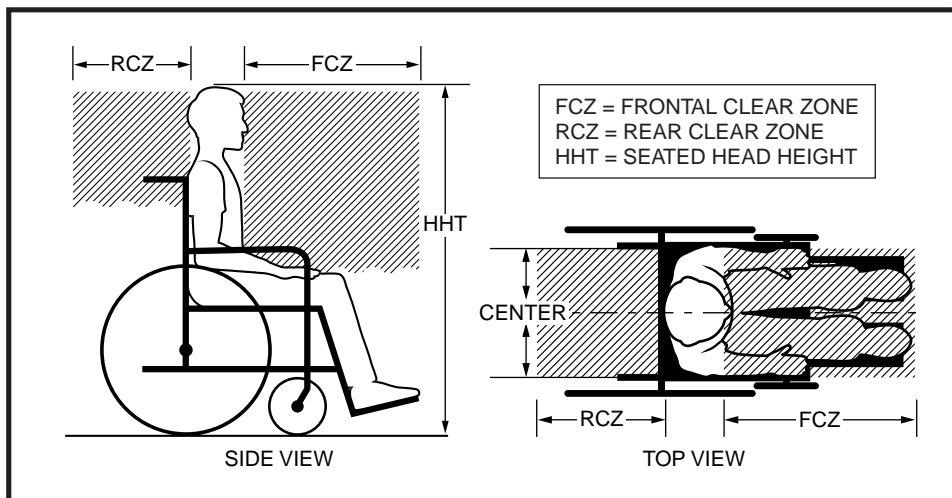

Figure 3. Recommended Clear Zones for Wheelchair-seated Occupants
- The frontal clear zone (FCZ) is measured from the forwardmost point on the occupant's head and should measure at least 26 in. (66 cm) if both a pelvic and upper-torso belt are used. See figure 3.
- The rear clear zone (RCZ) is measured from the rearmost point on the occupant's head and should measure at least 16 in. (40.64 cm). See figure 3.
- The seated head height (HHT) ranges from about 47 in. (120 cm) for a small adult female to about 61 in. (155 cm) for a tall adult male. See figure 3.